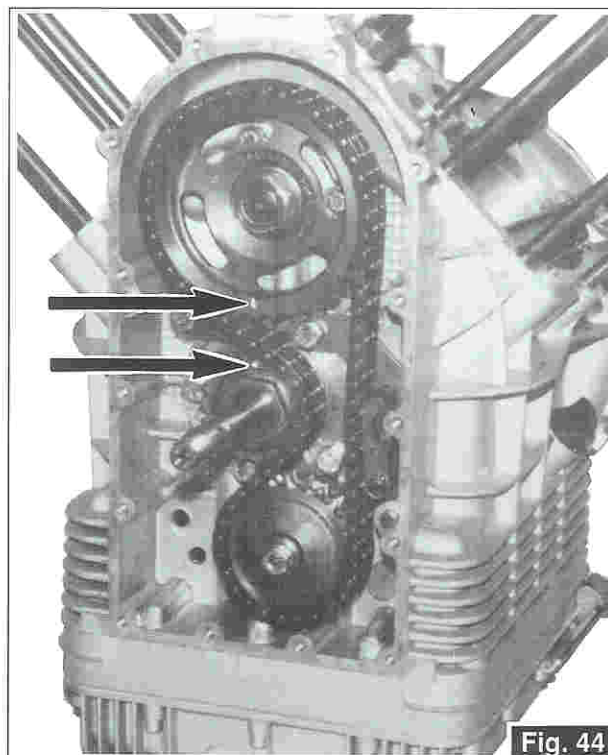

Fig. 44
- The timing marks are highlighted in figure 44. Use this marks for valve timing when reassembling.